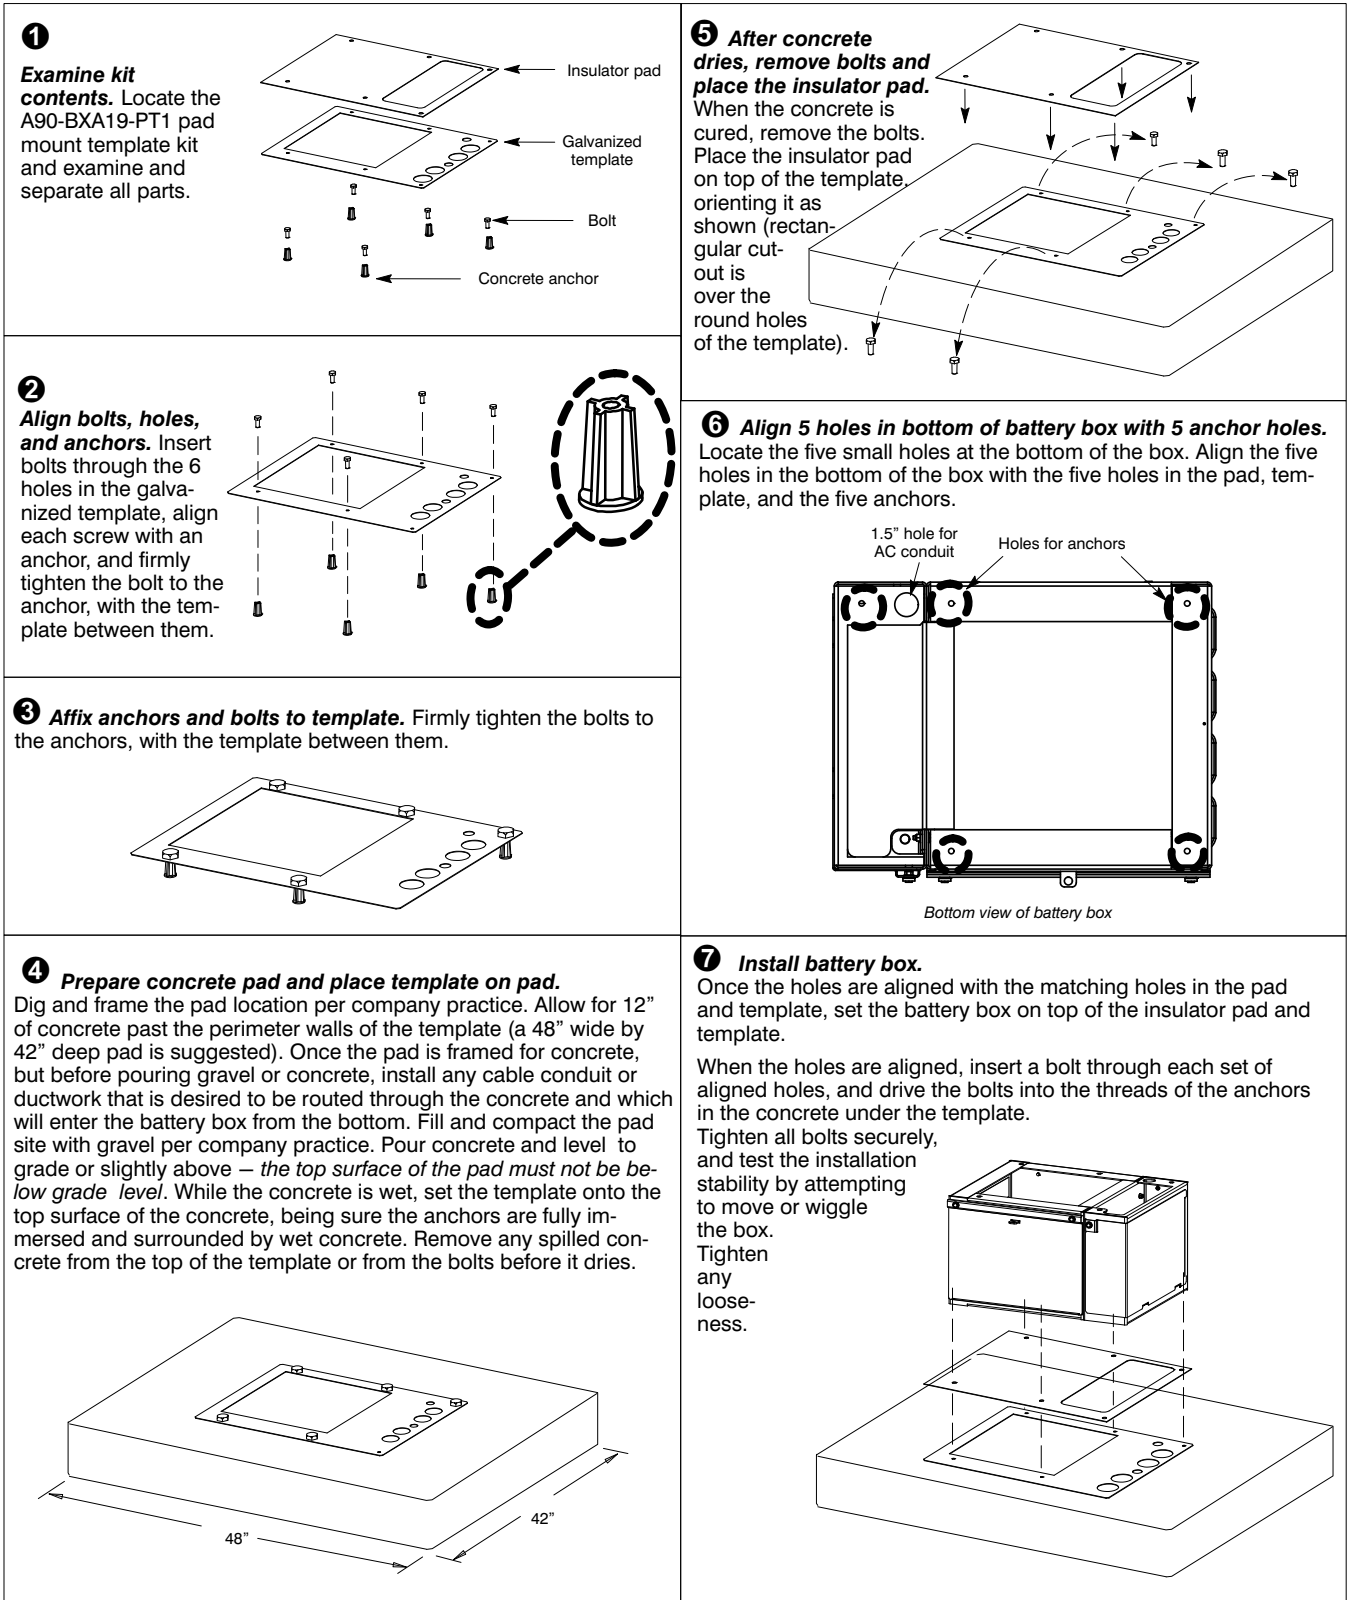

Figure 7. Concrete Pad Mounting
Follow the steps below to mount the Boxer battery box on a concrete pad. The battery box (or an optional skirt) is required when mounting the main Boxer cabinet on a concrete pad. Order and use the optional A90-BXA19-PT1 Pad Mount Template Kit for mounting on a concrete pad. Use the numbered steps below and the instructions in Figure 7 to mount the conjoined Boxer cabinet and battery box on a concrete pad. *These instructions are guidelines; you must design, dig, mix, pour, and install the concrete pad per local building codes and practices.* Note the following additional concerns for concrete pad installations:
2. **Prepare template.** Perform Steps 1-3 of Figure 7.
Figure 7 to pour the concrete, to place the template on the wet concrete, and once the concrete dries, to place the insulator pad and conjoined Boxer cabinets on the dry cured concrete.